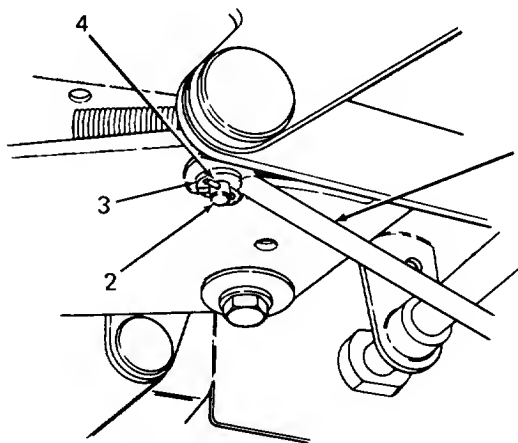

**Figure 36**
6. While sitting on the tractor seat, look through the frame and locate the deck double drive pulley and belt guard. The double drive pulley belt guard should be positioned so that the PTO drive belt is the same distance (approximately 1/4 inch) from each edge of the belt guard. (Refer to Figure 36.)